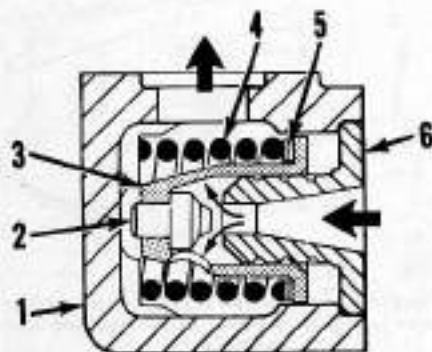

Fig. 211—Sectional view of hydraulic oil pressure relief valve.
**373. OIL PRESSURE RELIEF VALVE.** Oil pressure relief valves are installed in all hydraulic systems to prevent oil pressure from reaching dangerous levels when there is little or no flow. When oil pressure is more than spring (4—Fig. 211) pressure, plunger (2) is pushed off its seat (6) and oil flows